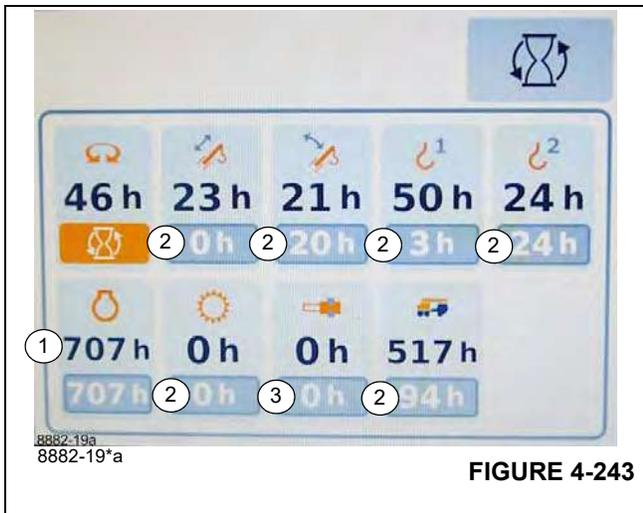

FIGURE 4-243
The value (1), (Figure 4-243) indicates the total engine operating hours, e.g. 707 hours.
The value (2), (Figure 4-243) shows the operating hours, which can be reset.
The value (3), (Figure 4-243) shows the number of times that the pinning system has started and then completed an unlocking procedure (cylinder unlocking or section unlocking).